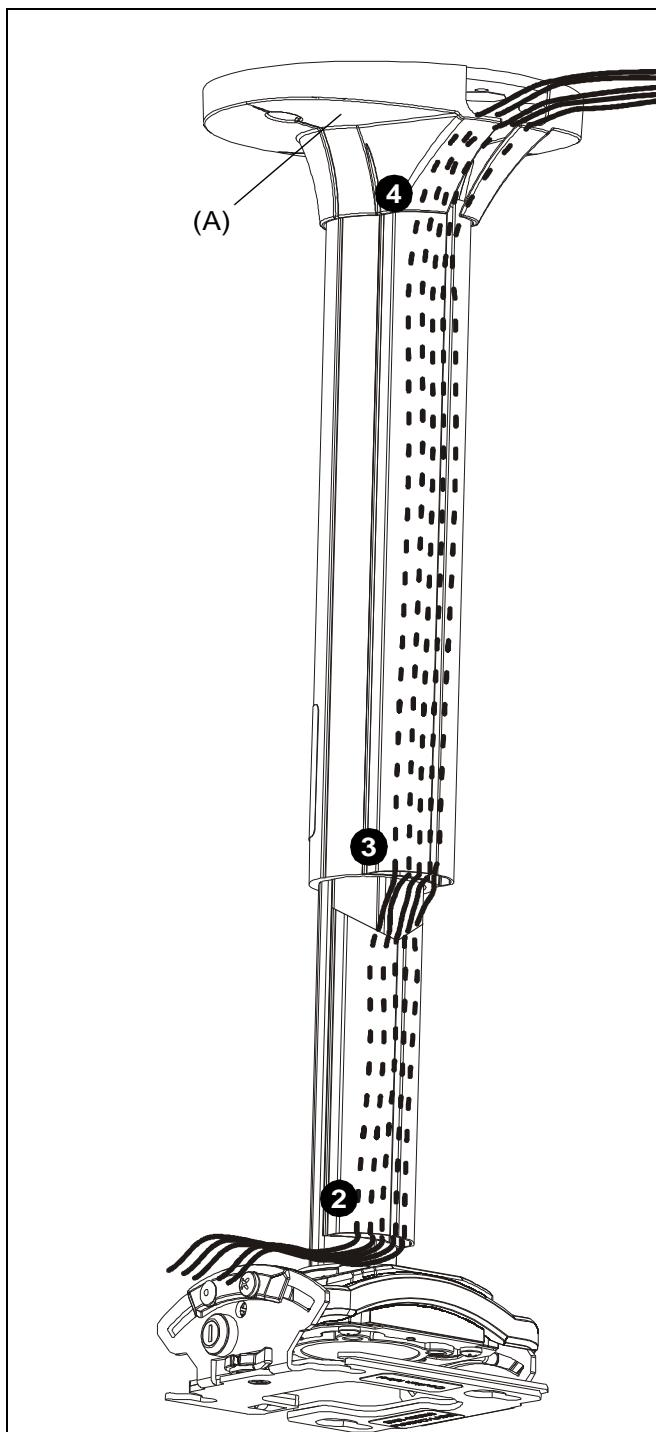

Figure 22
2. Route cables through lower cable cover. (See Figure 22)
3. Route cables through upper cable cover. (See Figure 22)
4. Route cables through ceiling plate cover (A). (See Figure 22)